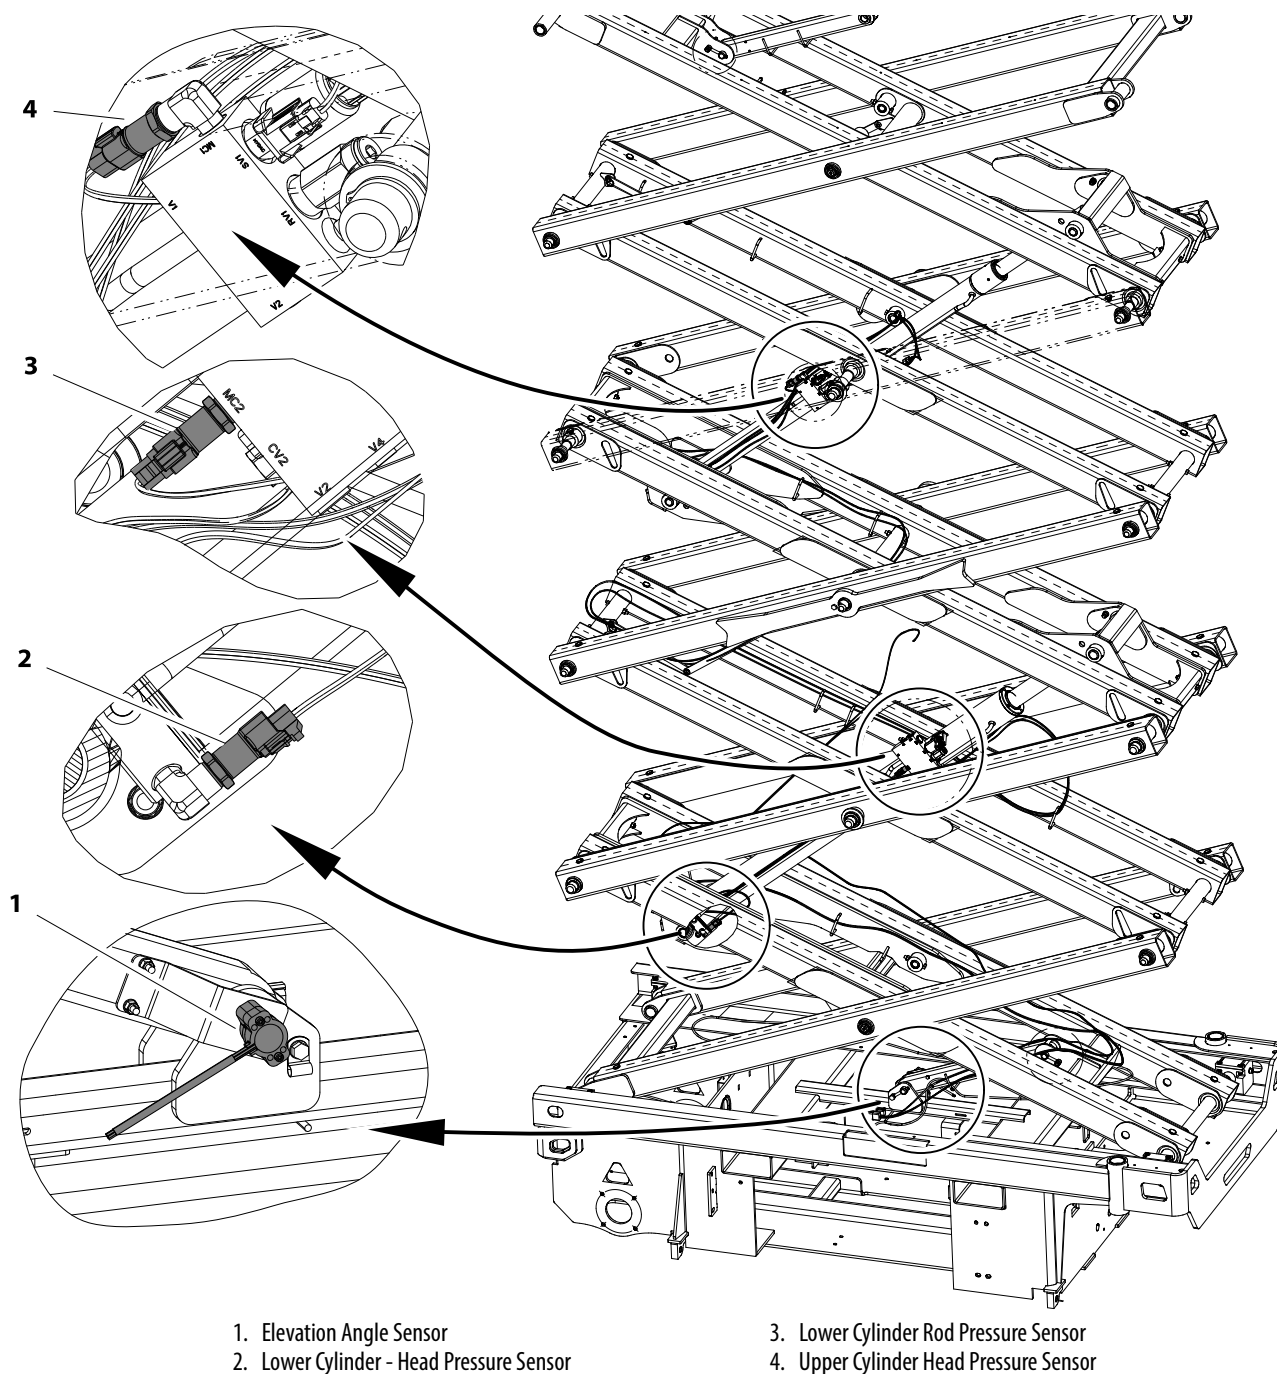

Figure 6-1. LSS Component Locations
11. Adjust the PERSONALITY ' LOAD ' ACC'Y setting (See Figure 6-1) according to the documentation furnished with the factory-provided accessories or consult JLG.